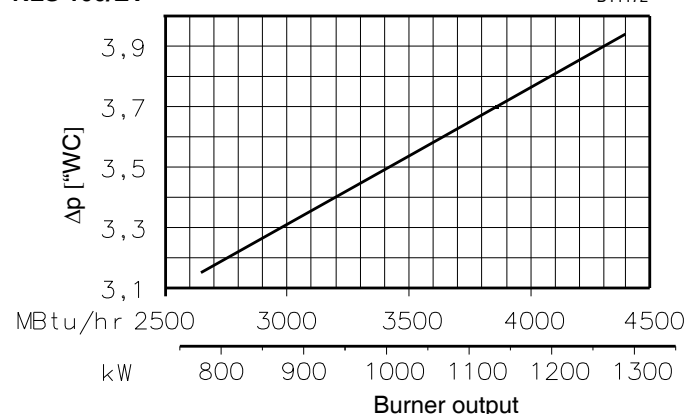

Fig. 26
- Find the nearest pressure value to your result in Fig. 26.